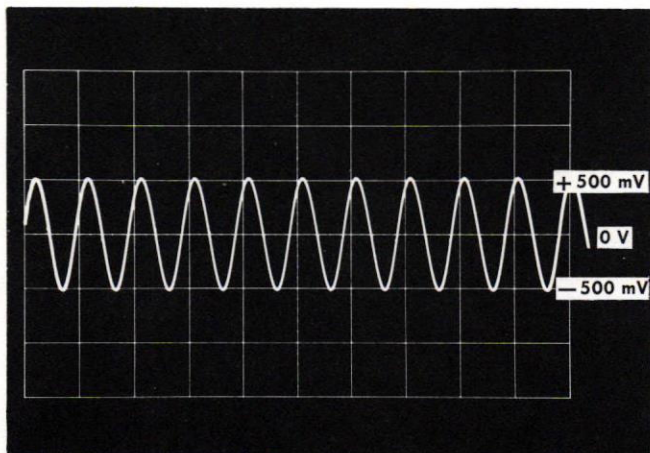

Fig. 5-5. Dynamic range of P6042, test oscilloscope set to 0.5 V/div.
- e. Increase the signal generator Amplitude until waveform distortion occurs. Check for an undistorted dynamic range of at least + and -1 cm ( $\geq$  + and -500 mV at probe amplifier output). See Fig. 5-5.